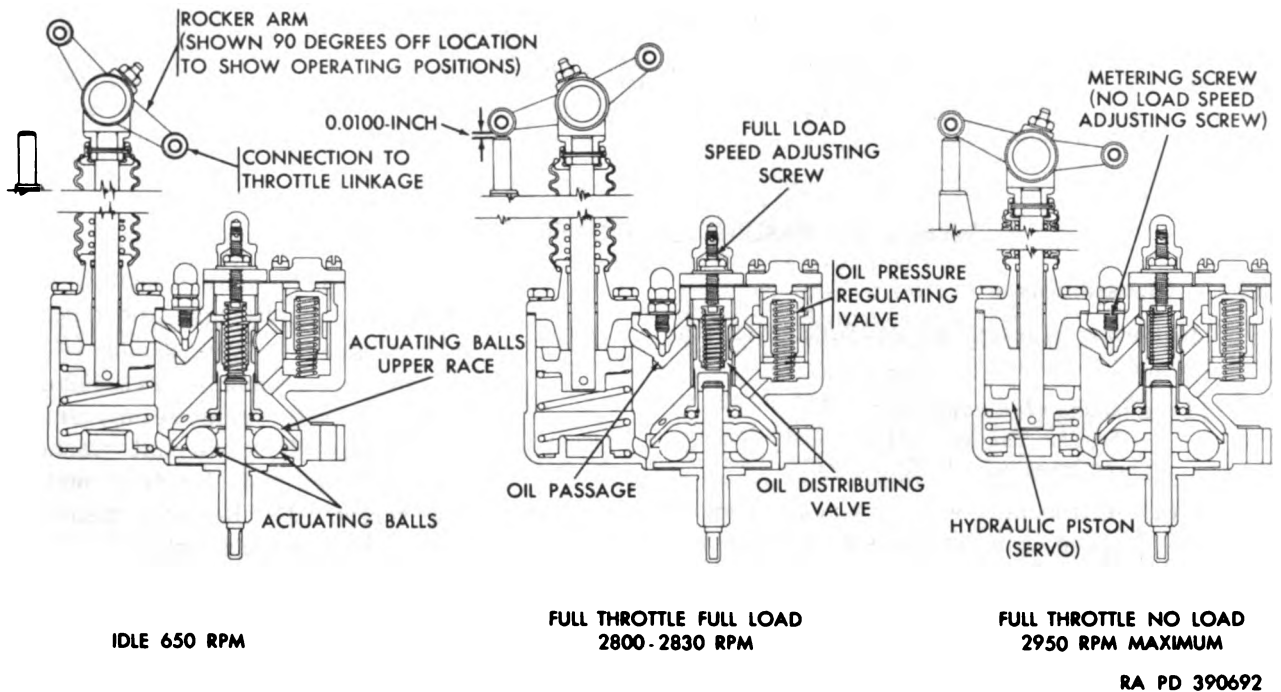

Figure 192. Governor assembly—8380695—cross-sectional view.
- (2) *Basic systems.* The governor is composed of three basic operating systems: the drive, or actuating balls and race-type mechanism; an oil distributing valve system; and a servo system.
- (a) *Actuating balls and race-type mechanism.* The actuating balls (fig. 192) rotate in their lower race, which is attached to the drive shaft. This rotation causes the conical upper race (fig. 192), which is in direct contact with the balls, to rotate, actuating the oil distributing valve system.
by the centrifugal force of the rotating balls, actuates the oil distributing valve system. The oil distributing valve (fig. 192) moves over oil passage openings, controlling the flow of oil through these passages to the hydraulic piston or servo system.
b. *Adjustment.* Desired engine speed at full throttle, full load, is obtained by adjustment of the speed adjustment screw (fig. 192), which controls the spring tension on the oil distributing valve. Desired engine speed at full throttle,
c. *Governor Oil Pressure Regulating Valve.* On model AOSI-895-5M engine serial numbers 2067 through 8487 only, an external governor oil pressure regulating valve (fig. 165) is incorporated in the governor oil supply system. This valve supplies oil to the governor at a constant pressure, regardless of fluctuations caused by varying engine speed, oil viscosity, or temperature, thereby producing a constant governor action. Model AOSI-895-5M engine serial numbers 8488 and above and all AOSI-895-5 engines have governors with an oil pressure regulating valve (fig. 192) which is an integral part of the governor assembly.